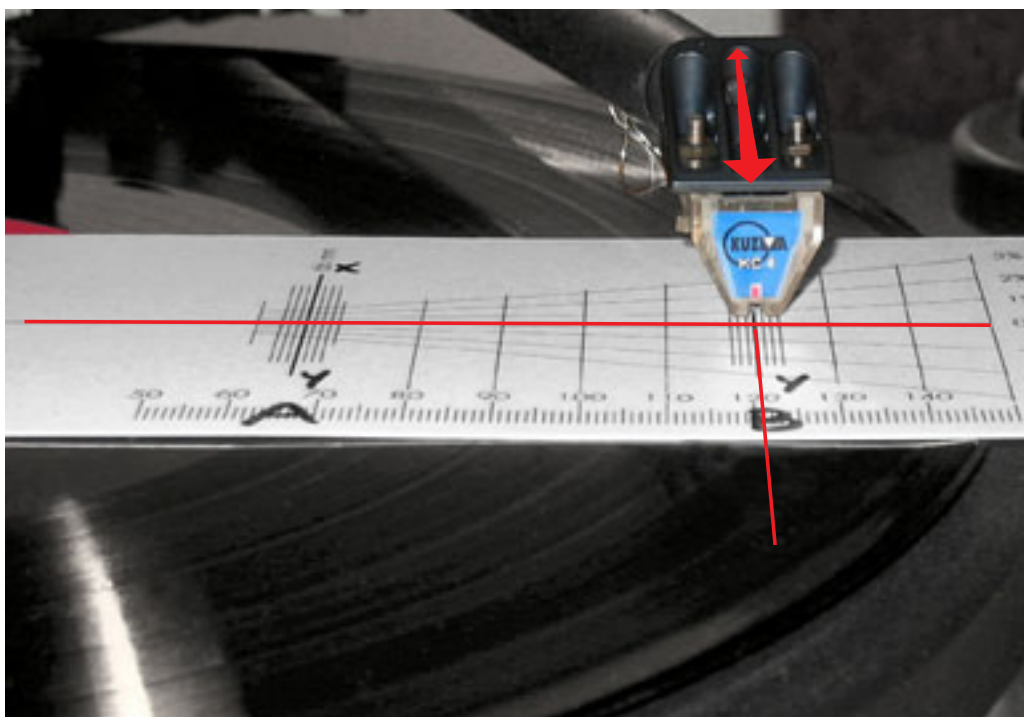
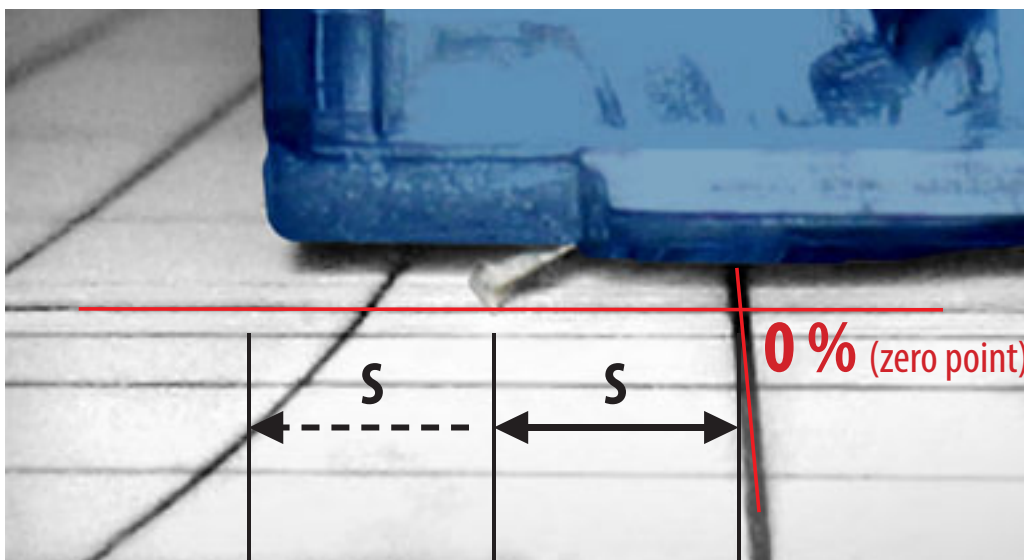

Fig. 28. Alignment at intersection B (outer null line: 'Y-X' and zero line)– cartridge move along headshell
Fig. 29. Stylus tip is in front of zero line for distance 'S'
2. Alignment at intersection B Fig. 28 & 29
Observe the cantilever from the front and rotate protractor until the cantilever is in alignment (parallel) along Y–X line, though the stylus tip will probably be somewhere along this line but not yet at intersection B. Raise the cueing device a little to see better. (Fig. 28 & 29)
If it is behind the zero line, push the cartridge backwards towards the tonearm armbase for the observed distance 'S'. (Fig. 29)
4. Repeat alignment at intersection B *Fig. 29*
- b) **B:** Align the cantilever along 'Y–X' line by rotating the protractor and see where the stylus tip is on the line 'Y–X'. Observe the distance 'S' and whether it is in front or behind the zero line. Fig. 28 & 29. Move the cartridge body along the headshell (not rotating cartridge body) for the observed distance 'S' away from the zero line. Fig. 29.